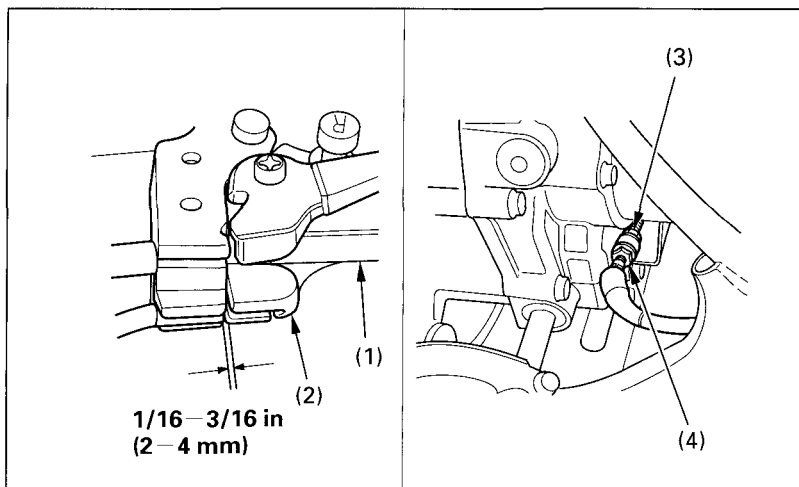

Fig. 4-16 (1) Rear brake lever
Measure the reverse assist lever (2) free play. Free play, measured at the lever (2) end near the cable (Fig. 4-16), should be approximately: